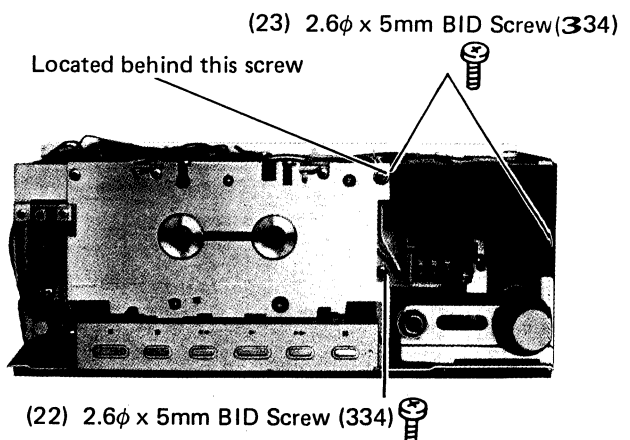

Figure 27.
2. Next, remove two screws (23) as shown in Figure 27, and light emitting diodes can be replaced.